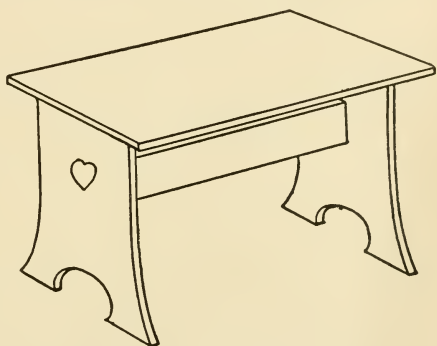

FIG. 131.—Another Design.
The other design (Fig. 131) will do nicely for
**A Dining-room Table**, or table for the centre of the living-room. The top of this should be five inches long and three inches wide. Cut the side-pieces by the pattern in Fig. 121 and, after fastening them to the under side of the table-top four inches apart, brace them with a strip three and three-quarters inches long by half an inch wide, as shown in Fig. 131.